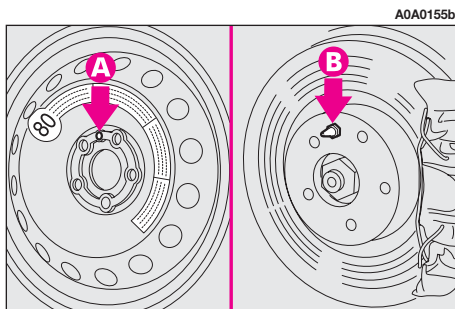

fig. 7
– Install the spare wheel matching the hole (**A-fig. 7**) with the corresponding pin (**B**).
– Fit the normal wheel matching the hole (**A-fig. 7**) with the corresponding pin (**B**).